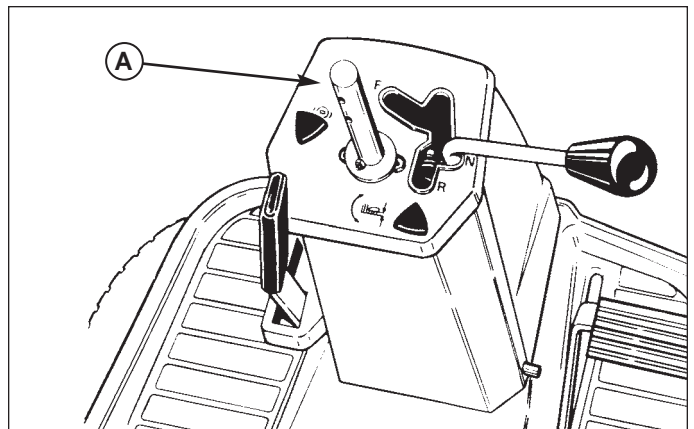
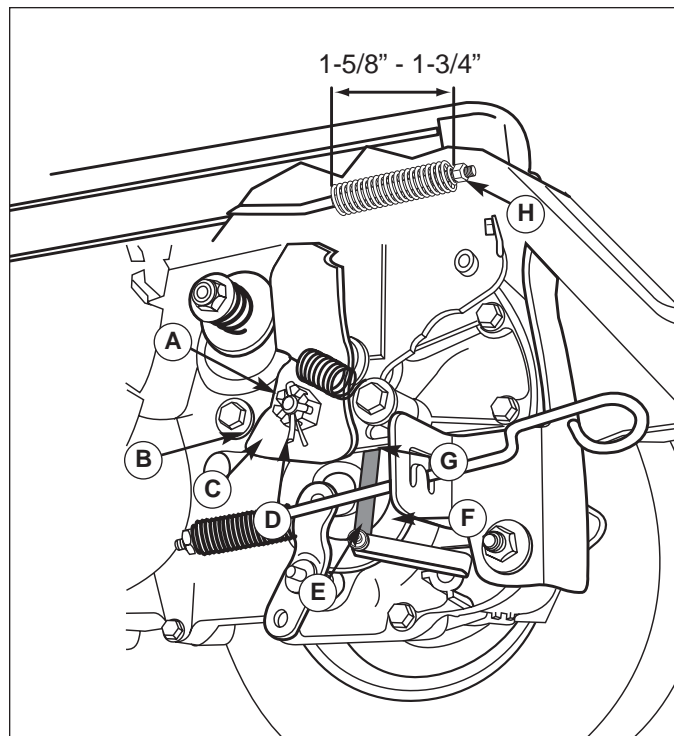

Figure 24. Steering Wheel Height Adjustment
Figure 25. Brake Adjustment
1. Pull down on the rubber boot to expose the two holes in the steering shaft (A, Figure 24).
2. Brake arm (C, Figure 25) should be touching stop (B).
3. Remove cotter pin (D) and loosen the castle nut (A). Place a 0.015" feeler gauge (E) gap between the brake disc (F) and the brake puck (G).
- a. To decrease gap, insert feeler gauge in gap and turn nut (A) clockwise until resistance is felt on the feeler gauge. To increase gap, turn nut (A) counter-clockwise and recheck gap.
3. Set the parking brake. Loosen or tighten adjustment nut (H) to achieve a 1-5/8" - 1-3/4" compressed spring length as shown in Figure 24.